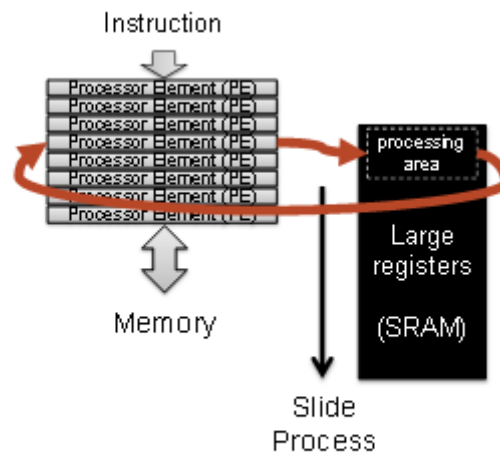

Figure 1 Architecture of Kp
- As shown in Figure 1, the Kp is a processor in which N processor elements sequentially process M sets of register files. Although there are N physical processors, it appears logically as if there are M processors.